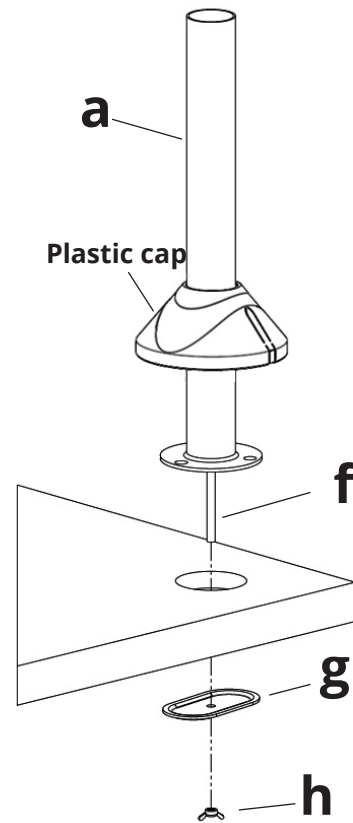

Figure 3
2. Position the 48mm Tube Support (a) on the mounting surface and secure it using the Grommet plate (g) and Wing nut (h), see Figure 3.